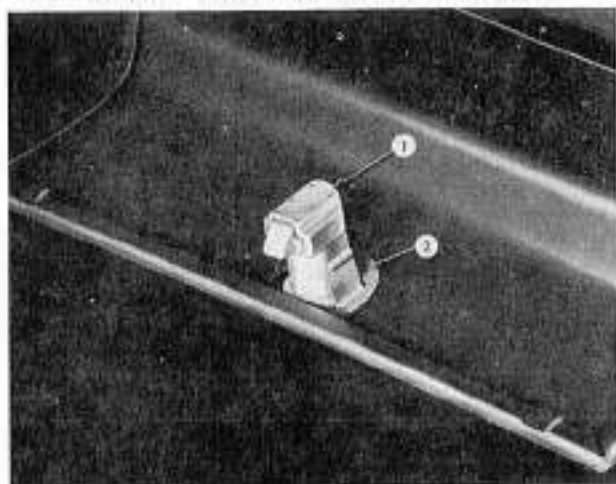

FIG. 359
The package compartment door lock is of the turn-knob type. To remove lock (1, Fig. 359) spring the ears of the retainer (2) outward and lift up over the projections on each side of the lock body.